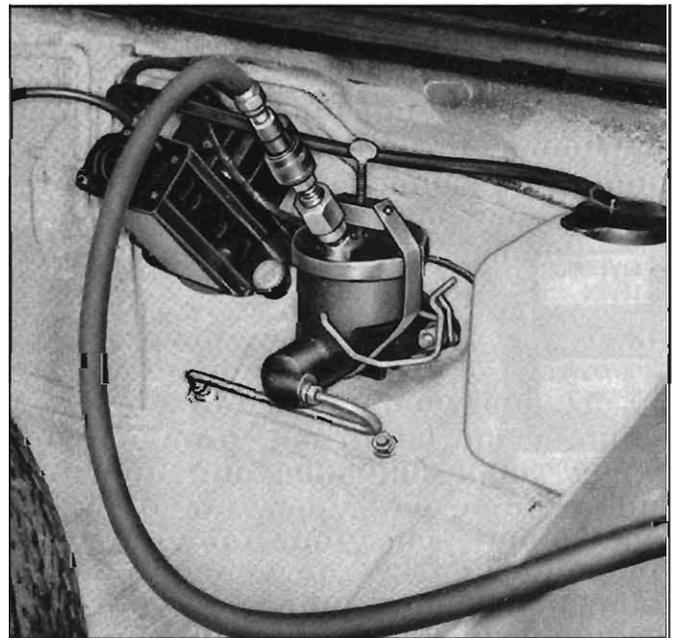

Fig. 5-4—Pressure Bleeding
2. Install Tool J-21479 (fig. 5-4), connect bleeder equipment to Tool J-21479, and open release valve on bleeder equipment.